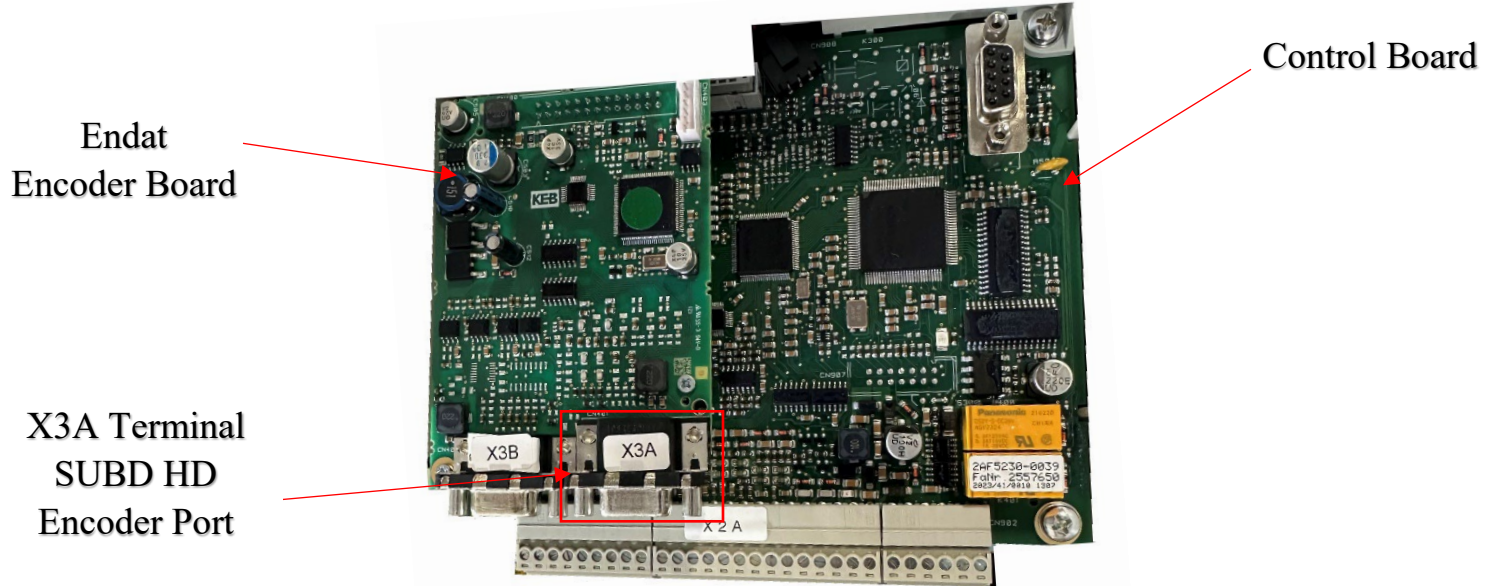

Figure 16: KEB Control Board & Endat SUBD 15 HD
- If using a PM motor, connect the encoder to the X3A SUBD 15 HD plug per Figure 16.